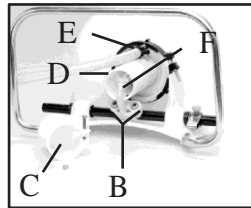

Figure 1.
1. Using a 13mm socket wrench remove the handle bolts, and set aside. Lay unit on its back with pump assembly facing you. See figure 1. Loosen hose clamp (E). Pull off sprayer hose. Caution: There may be liquid inside the hose and pressure cylinder even when the tank is empty. Wear protective gloves. Next, remove the nut and bolt from protective cap, and remove cap (C). Rotate the pump shaft to access the two lever bolts in the center (B). Using a 6mm allen head wrench, remove them. Pull the piston (F) out of the piston cylinder (D).